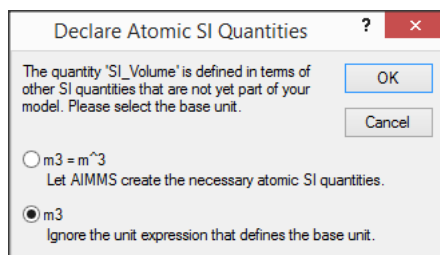

Figure 6.2: The **Ignore Unit Expression** dialog box
- ▶ select the second option 'm3' as in Figure 6.2, and